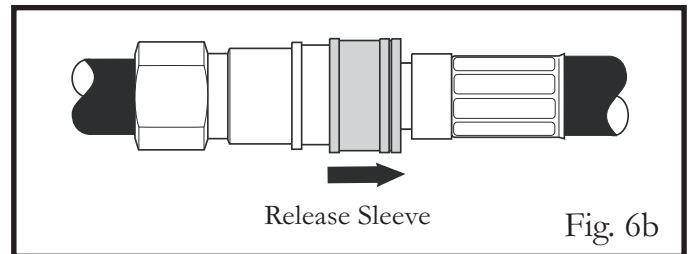

Fig. 6b
2. Insert Plug and release the Sleeve (see Fig. 6b).